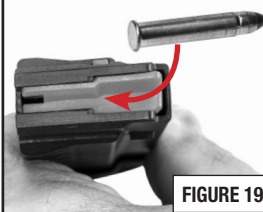

FIGURE 19
- Load the 30-round magazine by pressing each cartridge down and back into the magazine (FIGURES 19 and 20). The cartridges will alternate from side to side as they are loaded. It is important that the cartridges are pushed into the correct side. Ensure the rim of the cartridge being loaded is always in front of the round below it (FIGURE 21). The magazine will not properly feed a cartridge if the cartridge rims are not in correct position. If the top cartridge rim is not in front, remove cartridge and re-insert, verifying correct position. Repeat this procedure for the number of cartridges you wish to load, up to the magazine capacity. Do not attempt to load your magazine with more than the specified number of cartridges because doing so can cause a failure to feed.